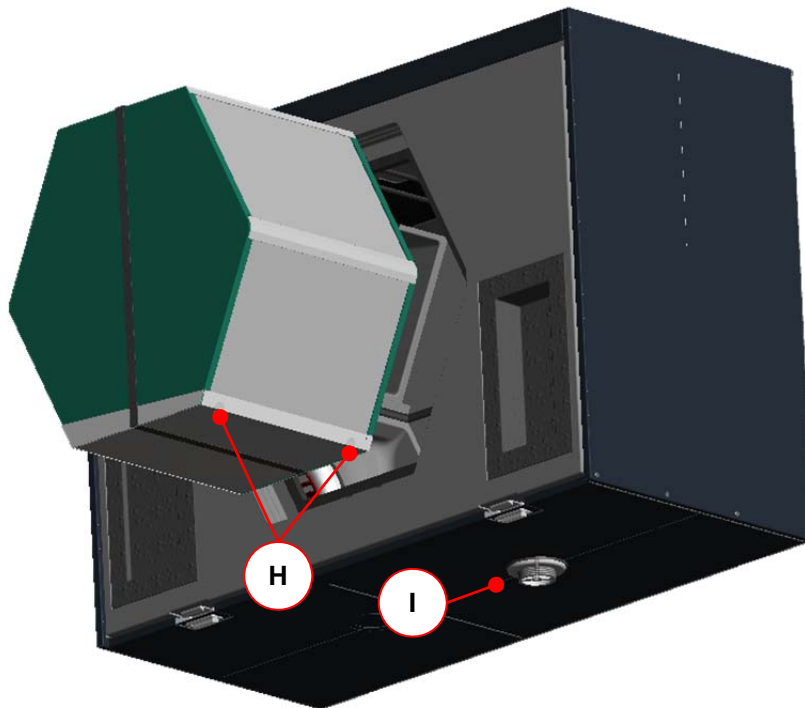

Fig 43: Position of the condensate pan when inserting the heat exchanger into the HRU
2. Insert the respective heat exchanger type considering the notes on Fig 43, and perform the work steps 9. to 10. pursuant to 3.7.1.